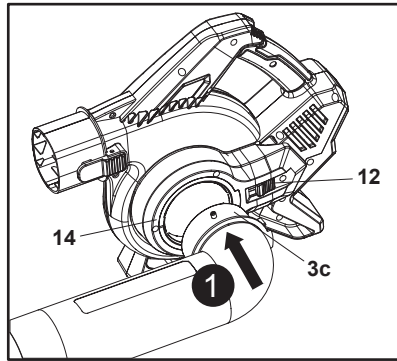

Fig. 4
4. Align the four spigots of the connection part (3c) with the slots of the vacuum port (14) and insert the vacuum tube assembly to the vacuum port (14) all the way to the stop with an audible click. Ensure that the snap-in button (12) is properly engaged so that the built-in switch will be activated (Fig. 4).